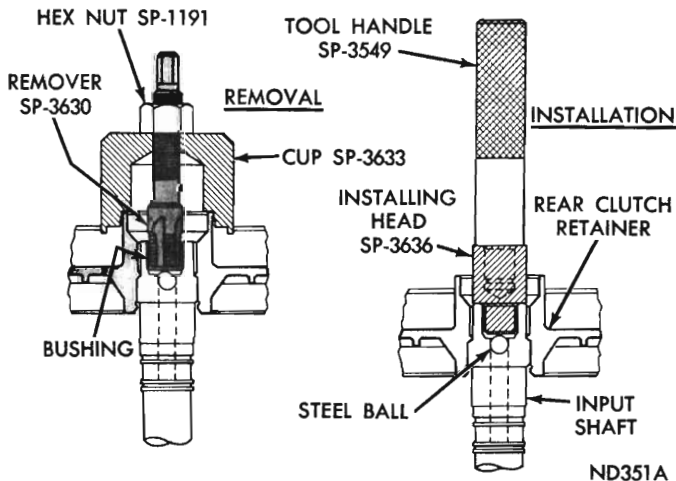

Fig. 82 - Replacing input shaft bushing (A-727)
(1) Clamp input shaft in a vice with soft jaws, being careful not to clamp on seal ring lands or bearing journals.
(2) Assemble remover Tool SP-3630, cup Tool SP-3633, and hex. nut Tool SP-1191 (Fig. 82).
(4) Using a wrench, screw remover into bushing 3 to 4 additional turns to firmly engage threads in the bushing.
(5) Turn hex. nut down against cup to pull bushing from input shaft.
(6) Thoroughly clean input shaft to remove chips made by remover threads. Make certain small lubrication hole next to ball in end of shaft is not plugged with chips. Be sure no chips are lodged next to the steel ball.
(7) Slide a new bushing on installing head Tool SP-3636 and start them in the bore of input shaft.
(8) Stand input shaft upright on a clean smooth surface and install handle Tool SP-3549 in the installing head (Fig. 82). Drive bushing into shaft until tool bottoms.
(9) Thoroughly clean input shaft and clutch piston retainer before assembly and installation.